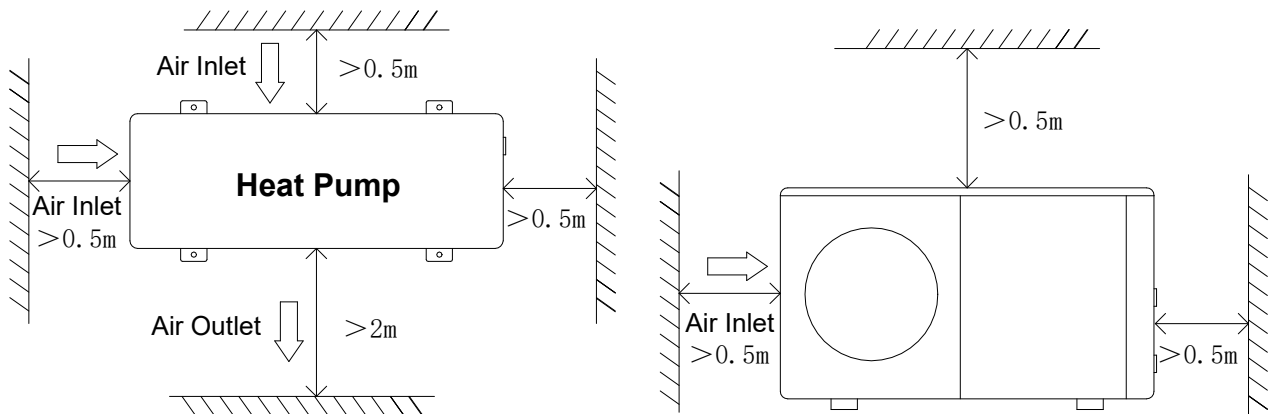

Figure 1
- ① The heat pump installation area must be well ventilated and shall not hinder the air inlet/air outlet.
- ② The installation area must have a good drainage system and build on a solid foundation.
- ③ Do not install equipment in areas where pollutants such as corrosive gases (chlorine or acid gas), dust, sand and leaves accumulate.
- ④ In order to conduct easier and better maintenance and troubleshooting, the obstacles around the equipment should not be less than 1m. And there is no obstacle within 2m of the vertical direction of the ventilation device. (see Figure 1)